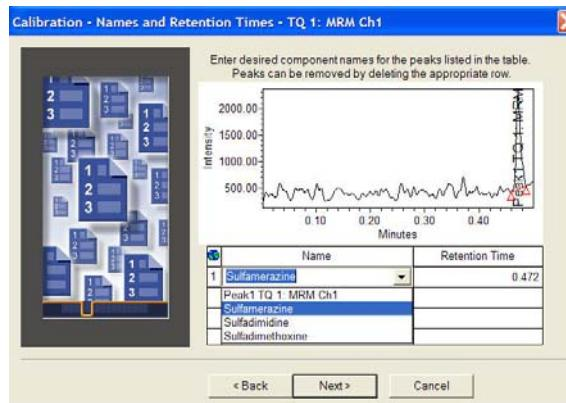

Figure 80 - Calibration window
15. In the Names and Retention Times window, click inside the Peak1 TQ 1: MRM Ch1, click the drop-down list, and then select **Sulfamerazine** (Figure 80).
**NOTE:** *The component names match the names entered in the standard Amounts from Run Samples. The final view for this dialog box should match the one displayed in Figure 80.*